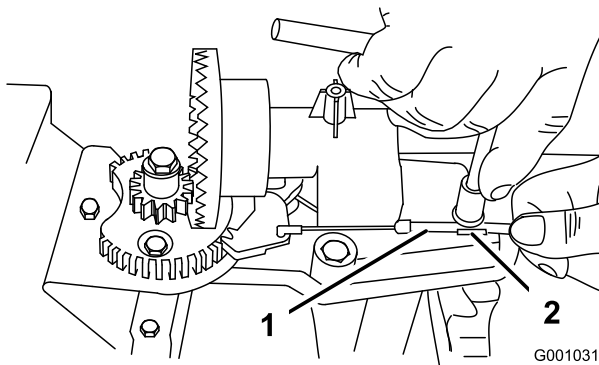
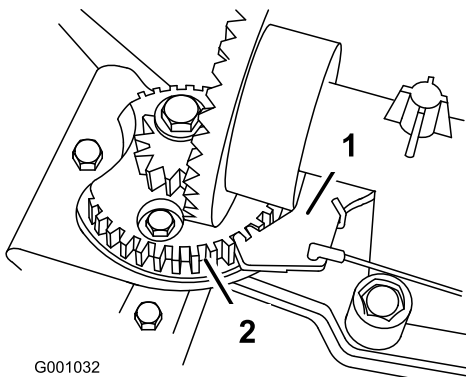

Figure 59
Figure 60
2. Loosen the bolt on the cable clamp (Figure 59).
3. Grasp the cable conduit and move it toward the front of the machine until the discharge chute latch fully engages the gear teeth (Figure 59 and Figure 60).
**Note:** The latch is spring loaded and will naturally move into the teeth of the gear (Figure 60).